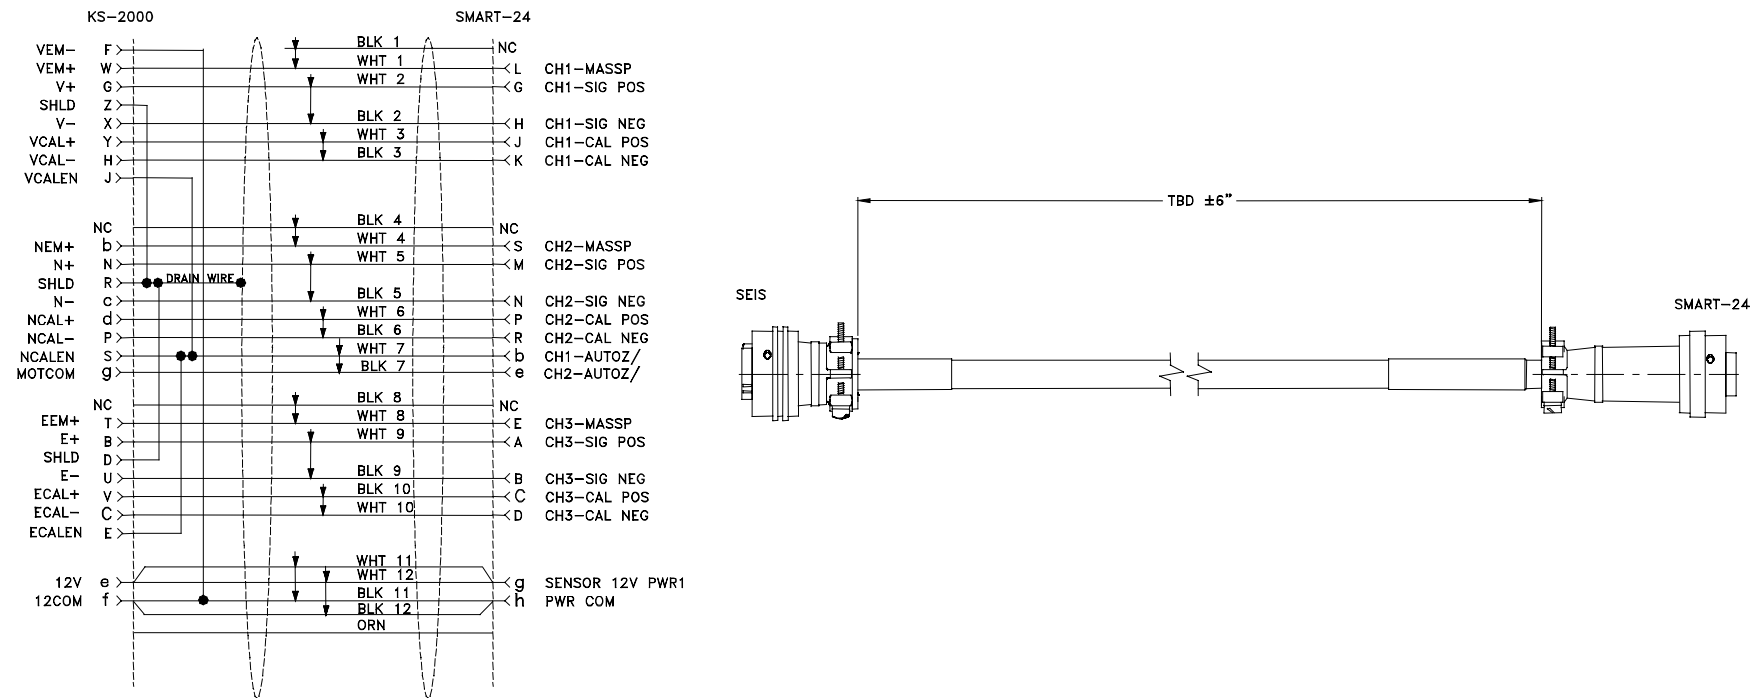

Figure A-7. SMART-24 to KS-2000 Cable
- Figure A-7. SMART-24 to KS-2000 Cable